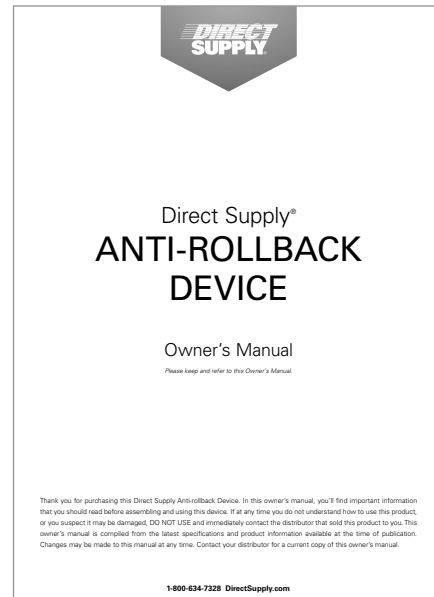

Figure 10
- b. Read entire owner's manual and then install anti-rollback device. (figure 10)